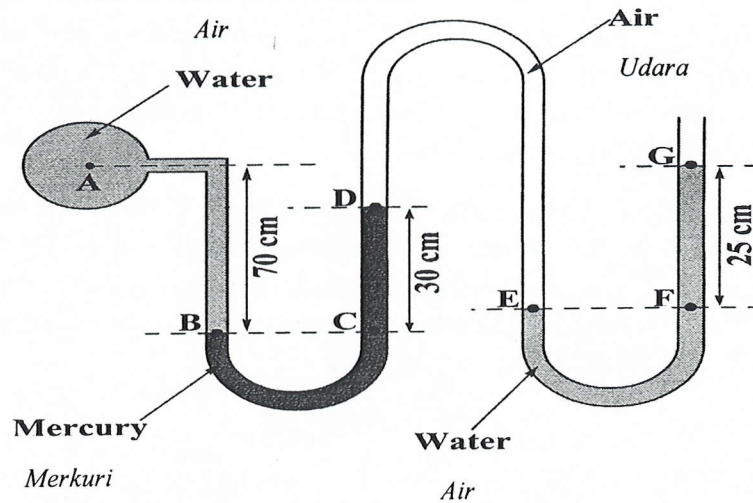

Figure Q. 2. [a]
2. [a] Figure Q. 2 [a] shows an arrangement for measuring the pressure at the centre of a pipe A. The specific gravity of mercury is given as 13.56 and the density of water is  $1000 \text{ kg/m}^3$ . What is the pressure at point A? Given that the height of air from point E that levels with point D on the other side of the arm is 20cm.